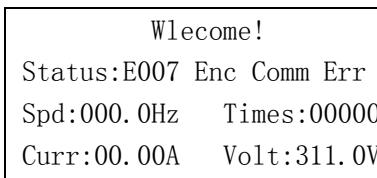

Fig4-1
1. Connect the encoder with the controller firstly , otherwise E007fault will be displayed , it will report E019 failure for the first power-on, press the **RESET** keypad to clear the fault.if connection is correct , display : Limit unlearned, that means the setting of top and bottom limit position should be done . If that has been done before, there will be no indication of Limit unlearned. shown as Figure 4-1、4-2、4-3.